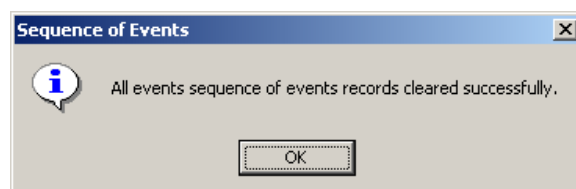

Figure 2-33 Sequence of Events Record Cleared Confirmation Screen
2. Select **YES**, IPScom will respond with the Sequence of Events Records Cleared confirmation screen (Figure 2-33).